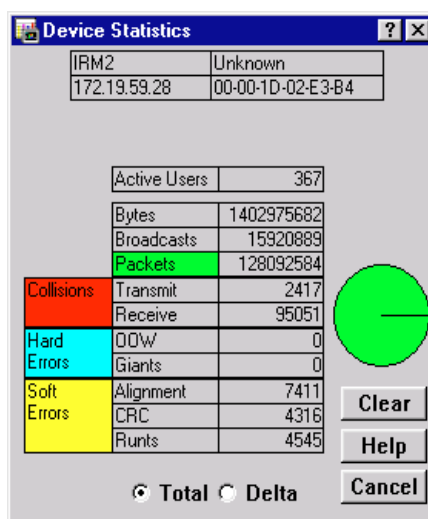

Figure 3-1. Statistics Window
2. Drag down to **Statistics...** and release. The Repeater Statistics window, Figure 3-1, will appear.
The Board and Port Statistics windows are the same as the Statistics window displayed in Figure 3-1, except that they display statistics applicable to the selected board or port.